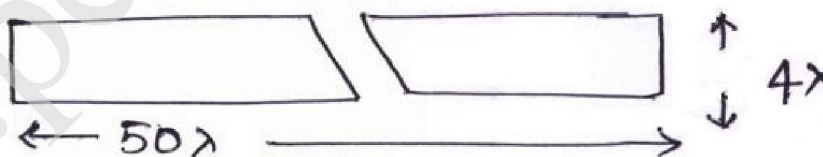

Fig.Q4(b)
- b. Calculate the area capacitance of the layer below [Refer Fig.Q4(b)] :